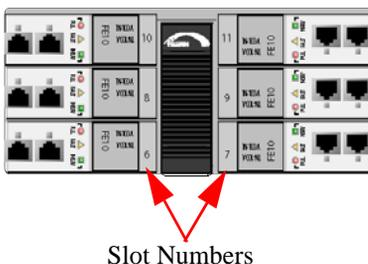

FIGURE 1-16 For 9400 SM Cards, Latch Label on Inside of Chassis
2. For insertion into slots 6, 8, or 10, hold the card securely with component side down. For insertion into slots 5, 7, 9, or 11, hold the card by its latches with component side up. (For any slot, the latch/label will go on the inside of the chassis). Refer to Figure 1-16.